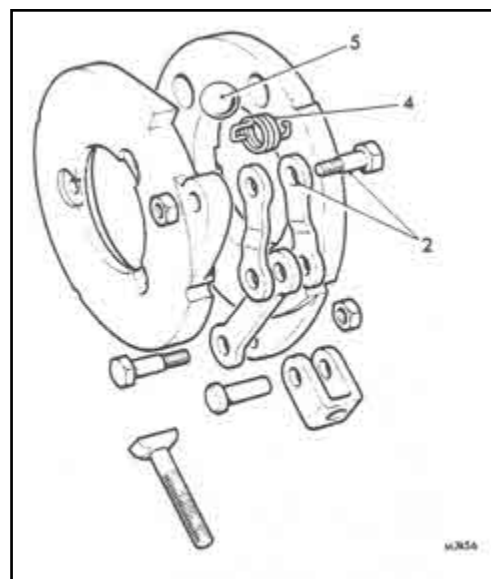

Fig 2. Exploded view of brake actuator
The brake actuator, Fig 2, can be dismantled to check for wear in the ramps that the balls (5) sit in. The springs (4) may be weak due to heat affecting the spring steel. If the springs are loose when the actuator is removed then this is a sure sign of weakness, they should be tight to hold the actuator in the 'At rest' position. Very often heat is caused by the brakes being partially applied causing the rotating disc to touch the surfaces. Check the pins and links (2) for wear. All the the wear surfaces may be 'Glazed' this will severely reduce the braking action.